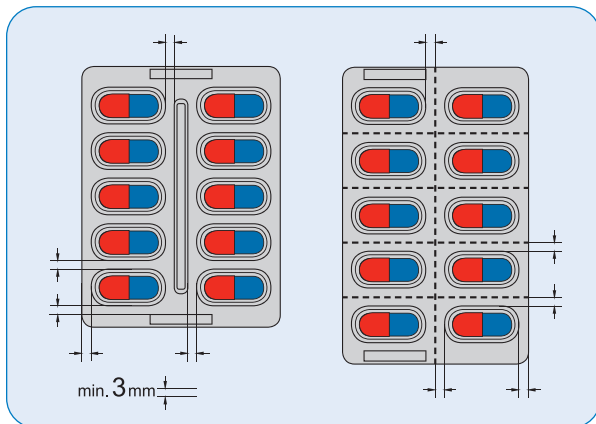

Figure 7A
- Strengthening ribs or elements7 to reinforce the blister flatness may be designed into the blister card to make cartoning easier (Figures 7A and 7B).
- When designing the layout for blister cards made with Aclar laminate, the reinforcing ribs work best when designed perpendicular to the machine direction (MD). The ribs should have a width to depth ratio between 2:1 and 3:1 to avoid under forming. Sufficient air evacuation ports must also be included in the rib design to achieve full forming.
- The recommended minimum seal flange width is 3 mm (Figures 7A and 8). If the blister card size does not allow for this; contact a Honeywell technical representative to discuss your options for maintaining a quality, tight seal. Honeywell will coordinate with you and your tooling supplier to recommend sealing alternatives for your blister card.